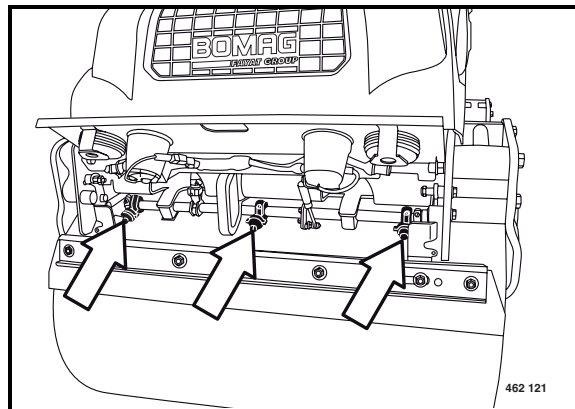

Fig. 170
- Unscrew the water sprinkling nozzles (Fig. 170) at front and rear and let all water run out.